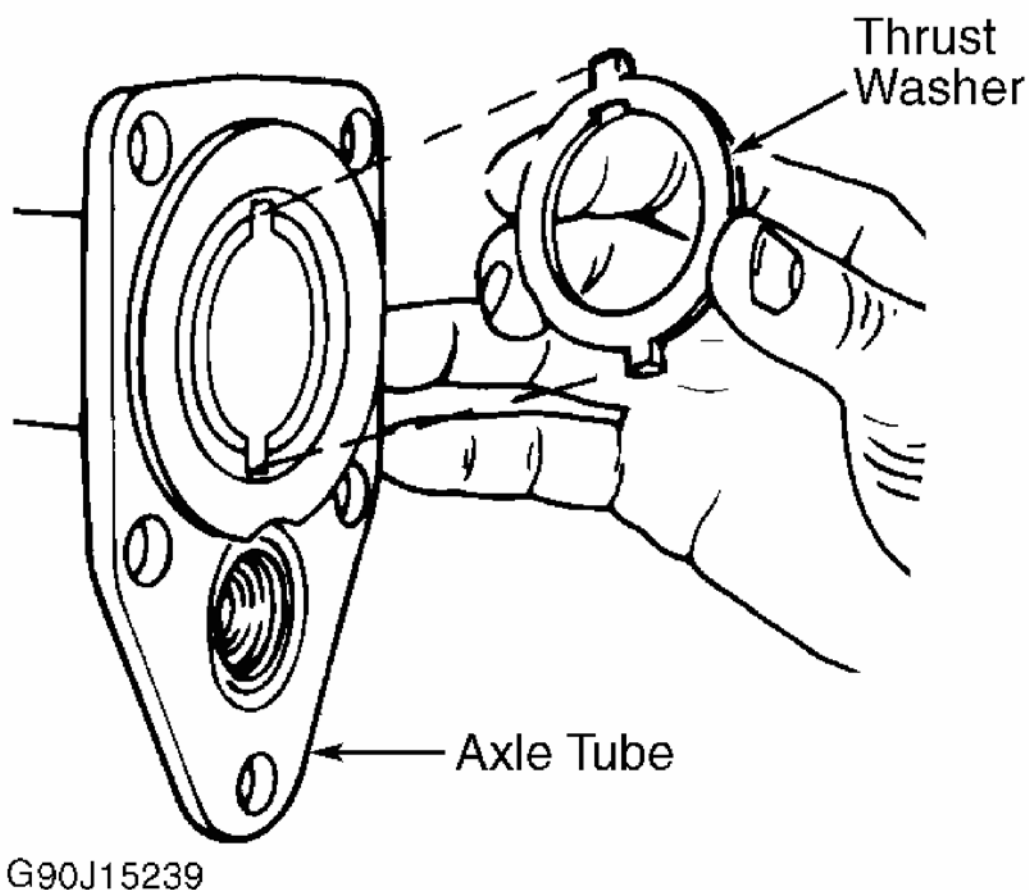

Fig. 7: Installing Axle Tube Thrust Washer
2. Install deflector onto axle shaft (if removed) and insert axle shaft into axle tube. Install thrust washer, ensuring tube slots align with tabs on washer. See **Fig. 7** . Use wheel bearing grease to hold thrust washer in place.